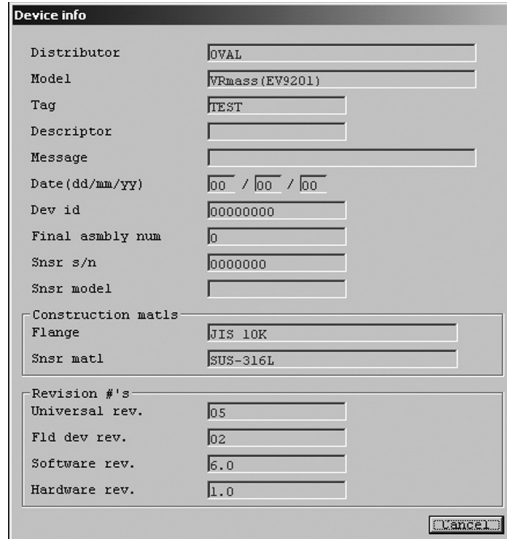

Fig.82
- ① Click on "Review (R)" at the top-level menu of the screen, select "Device info" and click on again.
- ② A message box like the one shown in Fig. 82 appears. You can review the transmitter information.